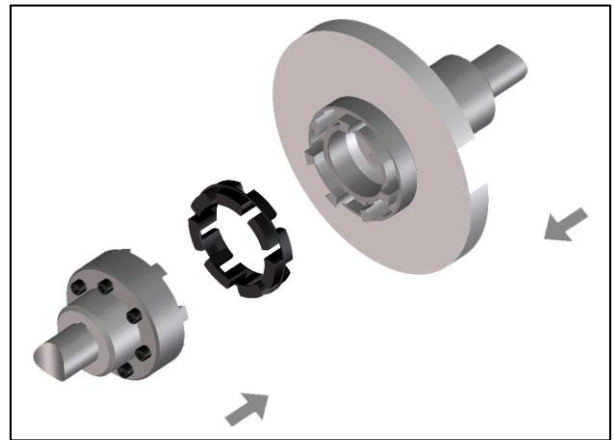

Fig 5
- Push the shaft ends with the mounted coupling halves together (Fig 5).